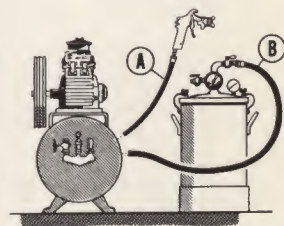

Fig. 63
73. What sizes of air hose are used? (Fig. 63)
- (a) From compressing outfit or transformer to gun (A) $5/16"$ I.D. is recommended. $1/4"$ I.D. may be used with small guns provided hose length does not exceed 12 feet.
- (b) From compressing outfit to pressure feed tank (B) $7/16"$ I.D. on large units— $5/16"$ I.D. on small ones.